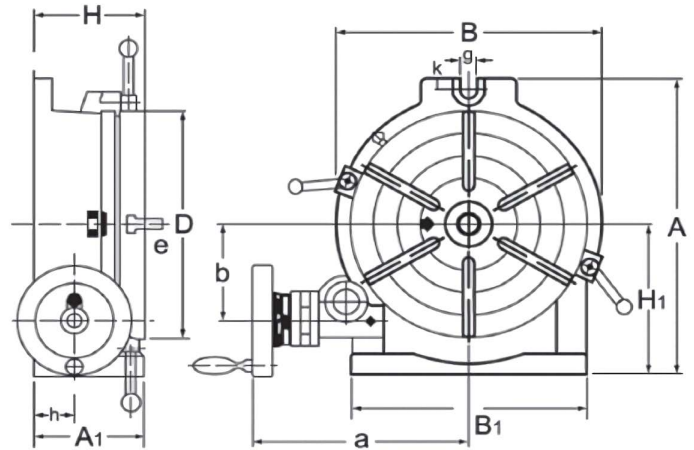

Figure 2 Dimensions
Height (A) (see Figure 2)	5.444"